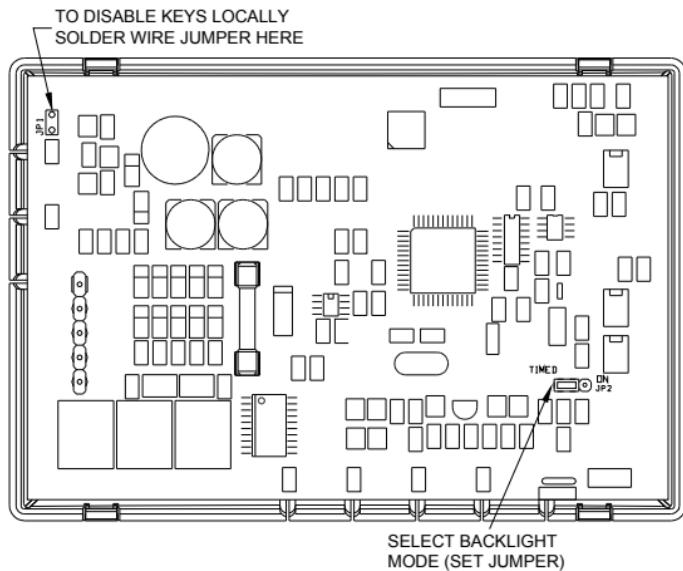

Figure 9
- 1) To configure the display backlight to turn on when a key is pressed, then back off 30 seconds later, set the “JP2” (Select Backlight Mode) jumper to the “TIMED” position (between the middle and left pin on the connector) - See *Figure 9*.
- 2) To configure the display backlight to always be on, set the “JP2” (Select Backlight Mode) jumper to the “ON” position (between the middle and right pin on the connector) - See *Figure 9*.
- 3) To configure the display backlight to never come on (always off), remove the “JP2” (Select Backlight Mode) jumper from the connector - See *Figure 9*.
The keys on the thermostat can be disabled to prevent anyone from controlling the thermostat locally. To disable the keys, solder a wire jumper across “JP1” (two holes on the circuit board) - See *Figure 9*.